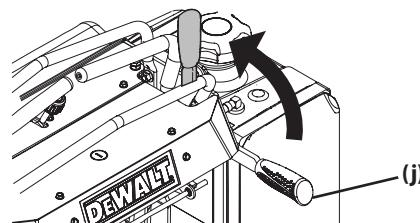

Figure 4
9. To engage the parking brake, pull back completely on the parking brake lever (j) See Figure 4.